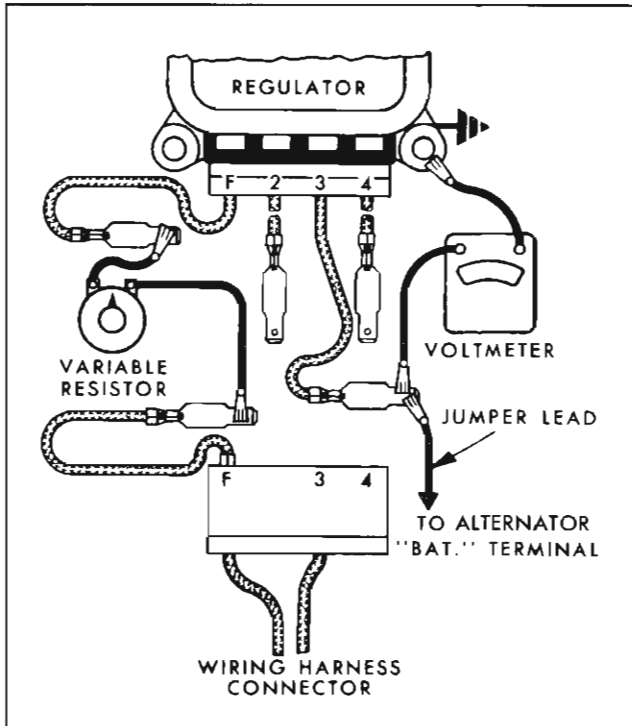

Fig. 11-31 Checking Voltage Setting
2. Make connections to the adapter as shown in Fig. 11-31. Use a 25 ohm 25 watt variable resistor in series with the field winding at the regulator "F"